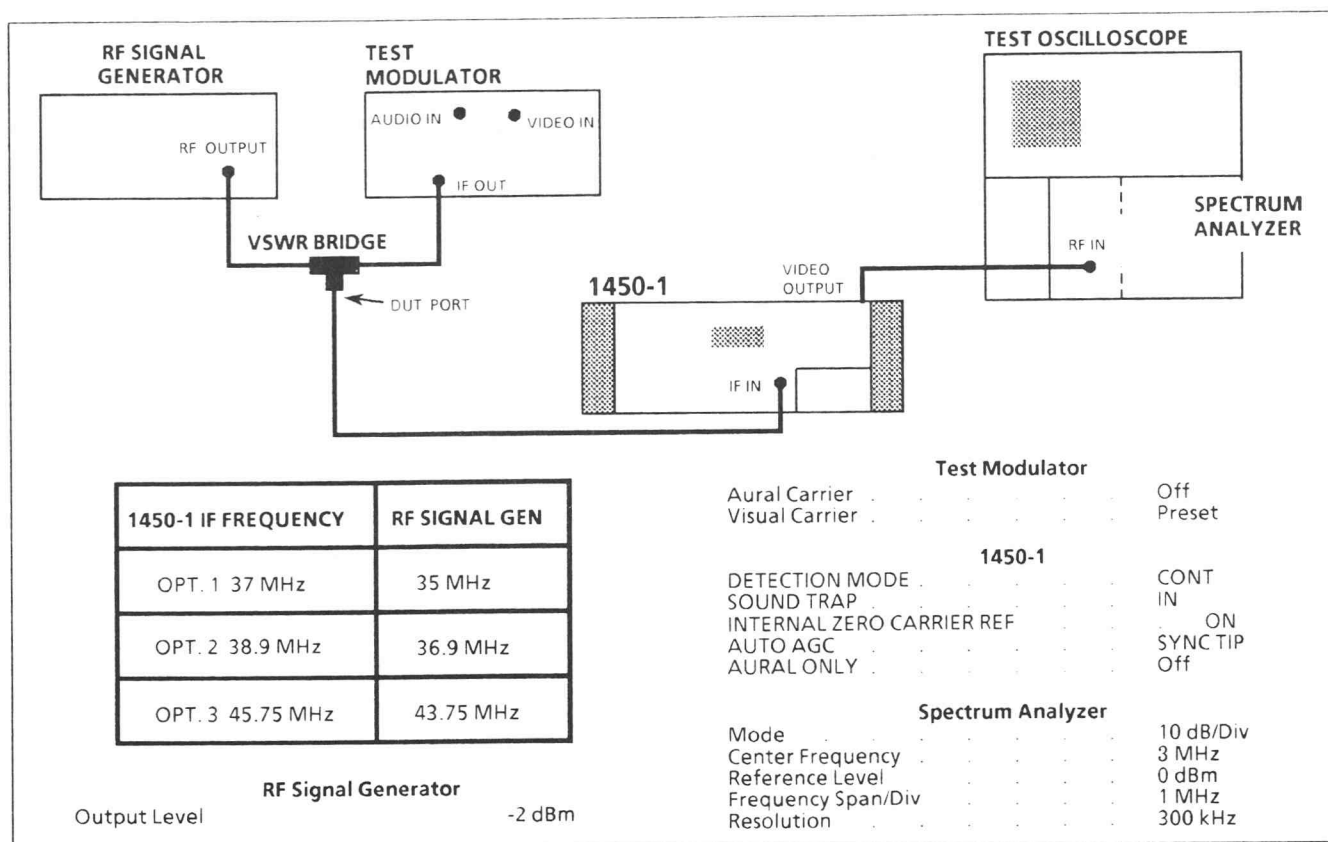

Fig. 4-48. Setup for adjusting IF mixer balance.
- a. Connect and set the test equipment as shown in Fig. 4-48.